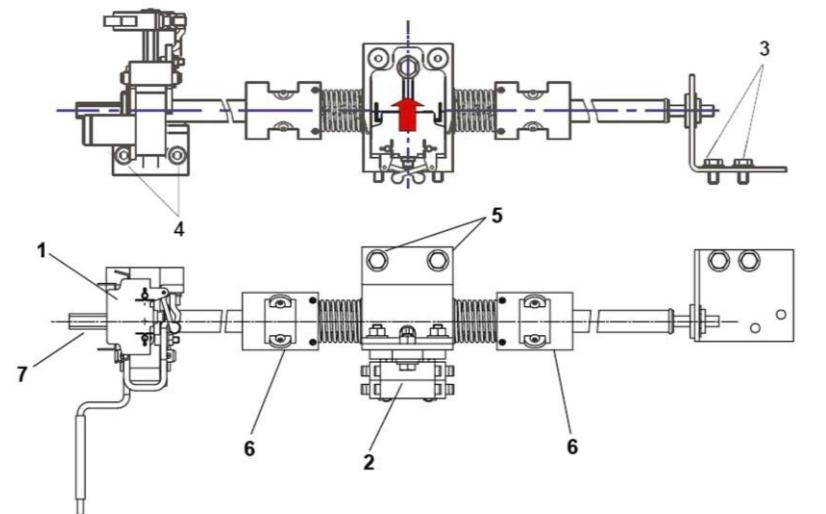

FIGURE 2 - DRIVE ASSY INSTALLATION
- c) DCS Switches (2, Figure 2) Vertical Adjustment will be done on board the vehicle according to Sheet R-P-04-01-00-00/I-00 Step 1.